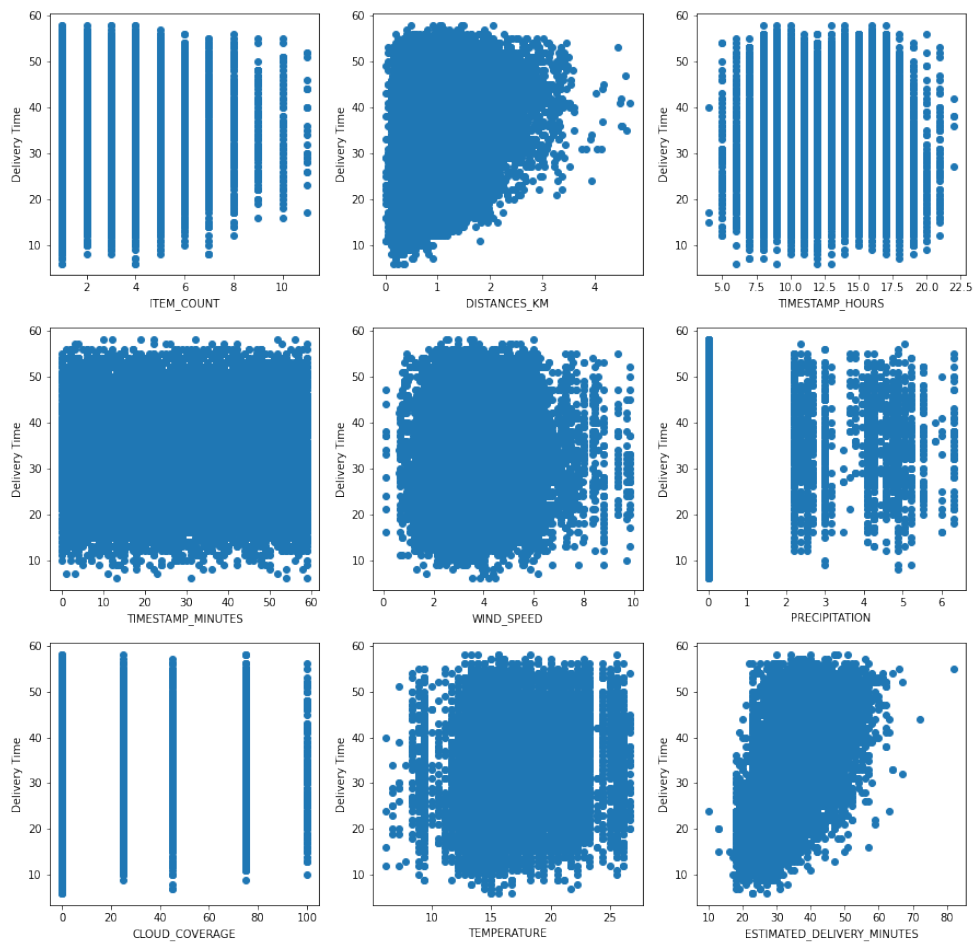
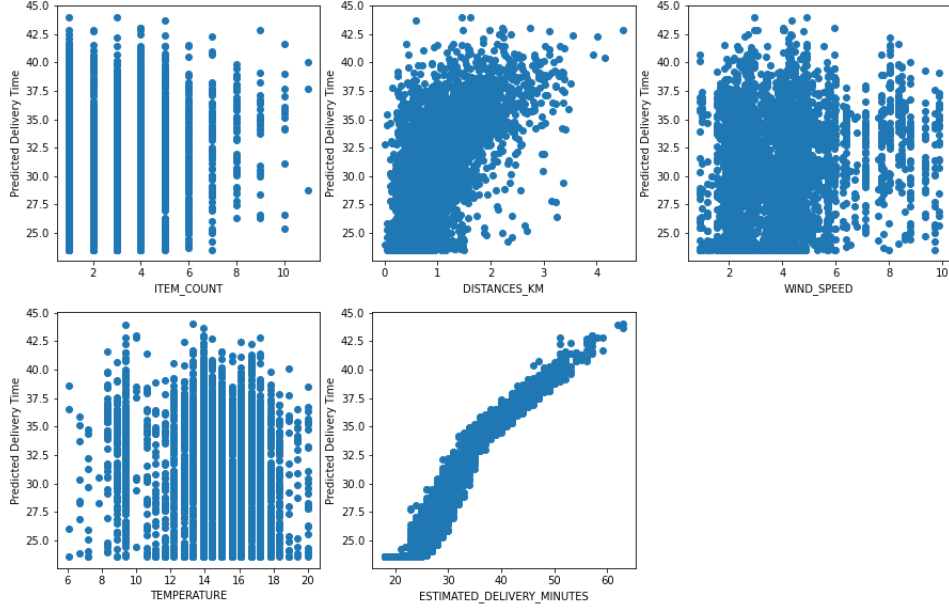

Figure 1: Scatter plot of each variable against the delivery time.
Figure 3: Relationship between the variables listed in Section 1.4 and the output of the neural network.
After preprocessing the dataset, I investigated how each variable relates to the delivery time (see Fig. 1). I observe that, for most of the variables, it is hard to say they have barely any contribution to the delivery time. It is worth noticing that this analysis holds only for single variables' relations to the delivery time. It may be the case that a combination of multiple variables has more impact on the delivery time than each variable on its own.
After observing the relations in Fig. 1 and playing with the data for some time, I decided I want to only use the following variables for my models:
After I trained the network and achieved desirable results, I made a similar plot to Fig. 1 to see how each of the variables contributes to the output. See the plot in Fig. 3. As in Fig. 1 most of the variables do not seem to relate much to the delivery time. All variables except for *DISTANCES_KM* and *ESTIMATED_DELIVERY_MINIUTES* seem almost randomly scattered. An interesting observation is that there is certainly a strong relationship between the estimated delivery time and the actual delivery time.
In this assignment, I designed a model to predict the needed time for Wolt's deliveries based on independent variables, shown in Table 1. I executed transformation on the dataset to enhance the relevance of some values and explored which variables have a direct impact on the delivery time (see Fig. 1). Then, I used the seemingly most important variables to approximate the relationship between them and the delivery time. I did that with a linear regression and a neural network. They both estimated more accurate values than the estimated delivery time provided in the dataset (see Table 2). The neural network produced better results than the linear regression.
- Both Fig. 3 and Fig. 1 show that the variable that contributes most to the delivery time is the estimate provided in the dataset. This looks odd and the importance of the other variables should be studied. It is worth trying to not explore the contribution of single variables, but a combination of multiple. E.g. the wind speed may not contribute on its own, but there may exist a function
One way to look for such relationships is to do similar plots to Fig. 3, 1 but instead of plotting raw variables on the X-axis, to plot the output of an intermediate neuron of the neural network. This neuron would serve the purpose of *F*.